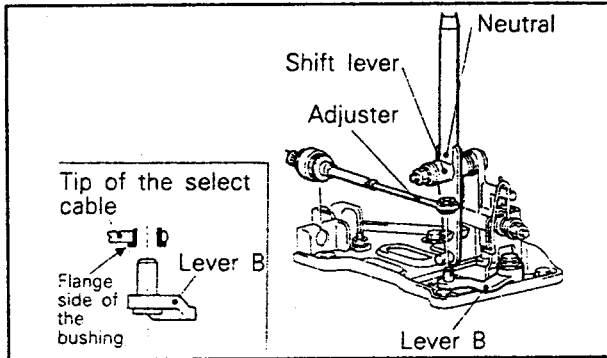

Fig. 7.9. — Move the lever "B" into the position shown before connecting the gear selector cable. Turn the adjuster to make the cable end fit over the spigot.
Inside the vehicle, place the gearchange lever "B" in Fig. 7.9 into the "neutral" position. Use the adjuster on the cable (11) and lengthen or shorten the cable until it can be engaged without tension over the spigot of the gear lever (B) in Fig. 7.9. Re-connect the cable with the split pin, but note that the flanged side of the resin bush must be facing towards the lever (B).